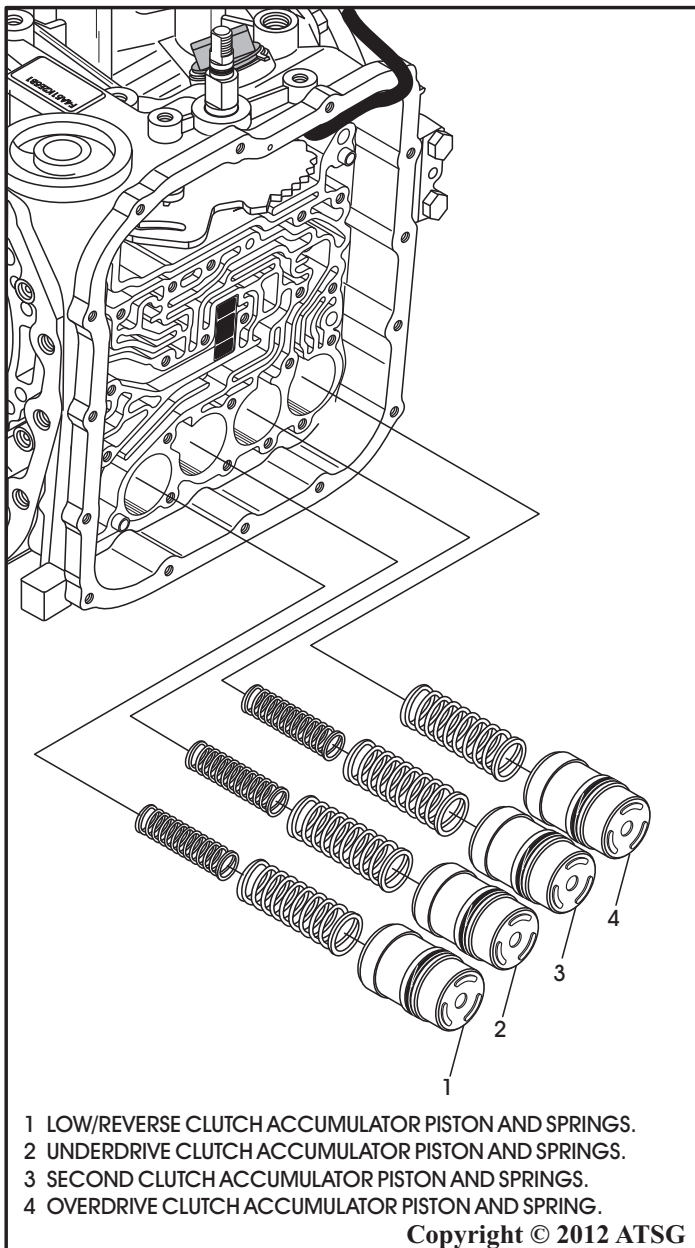

Figure 58
14. Remove each accumulator piston and springs, as shown in Figure 58.